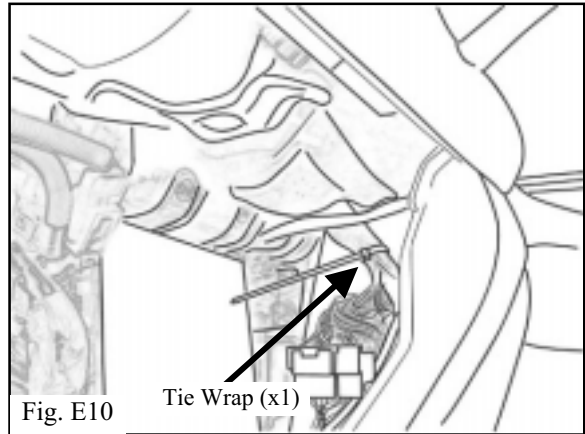

Fig. E10
- v. Tie wrap video signal harness to vehicle harness at the location of the white tape marks on the harnesses. (Fig. E10)